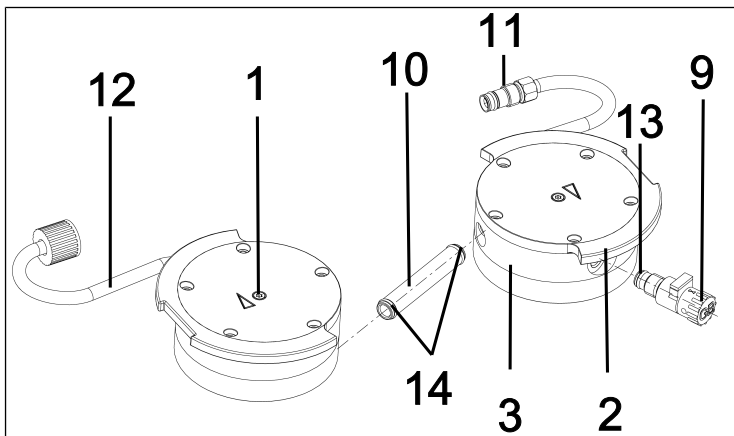

Fig.28: Changing O-rings
2. Pull the connection tube (10/ Fig. 28) out of the head plate (3).
3. Replace the two O-rings (**14**) on the connection tube (**10**/Fig. 28).
i If the O-rings (**14**) cannot be taken out of the connection tube (**10**/Fig. 28), press them together gently and remove them with pliers if necessary.
6. Unscrew the gas ballast (**9**/Fig. 28) from the head plate (**3**).
7. Replace the O-ring (**13**) on the gas ballast (**9**/Fig. 28).
8. Screw the gas ballast (**9**/Fig. 28) into the corresponding head plate (**3**) as far as it will go. Then turn it back again until the surface is oriented upwards.
7. Insert the connection tube (**10**/Fig. 28) back into both head plates (**3**).